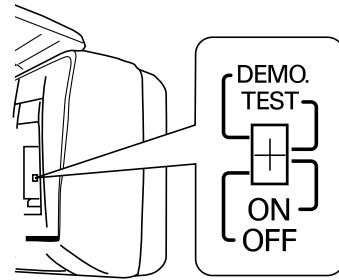
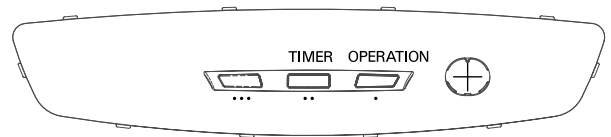

Fig. 5
Fig. 6
- (1) Turn the indoor unit selector switch to the "ON" position. (Fig. 5)
- (2) With the remote controller, start heating or cooling operation.
- (3) Turn the selector switch to "TEST RUN." (The indicator lamp blinks during test run operation.)
- (4) After the test run is completed, turn the selector switch to "ON." Operation stops, and remote controller control becomes possible.
- If the OPERATION lamp only blinks or the outdoor unit does not start approximately 5 minutes after the start of the test run, perform self-diagnosis by switching to OFF. Follow the self-diagnosis procedure listed on the right inside of the grille. The combination of the 3 indicator lamps indicates the condition of the system. (Fig. 6)